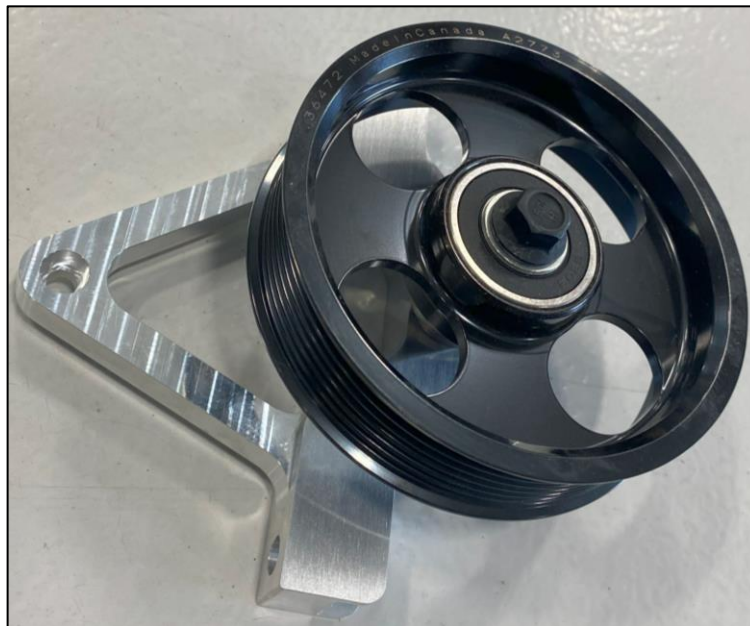

Figure 7
15. Locate the Spacer, 7-Rib Pulley, and the M10 x 1.5 Flange Bolt, 60mm. Place the M10 Bolt through the Pulley, with the Spacer behind the pulley. Install this assembly onto the AC Delete Bracket. The order should be **BOLT** → **PULLEY** → **SPACER** → **BRACKET**. Torque the M10 Bolt to **36 ft-lbs**. *Figure 7.*
17. The rest of the AC System is highlighted below and can be optionally removed if desired. Cap off any lines if they are left open. *Figure 7.*